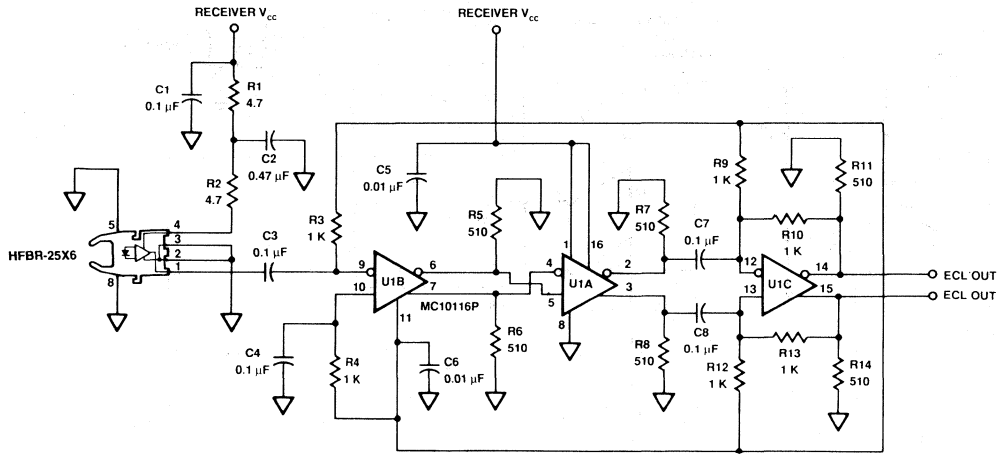

Figure 2. Receiver Application Circuit with +5 V ECL Outputs.
- If the output of U1C in Figure 2, page 106 is transmitted via coaxial cable, terminate with a 50 Ω resistor to $V_{CC} - 2$ V.
Receiver Application Circuit: Performance^[4] of the HFBR-25X6 receiver in the recommended application circuit (Figure 2); 2-50 MBd, 25°C, unless otherwise stated.